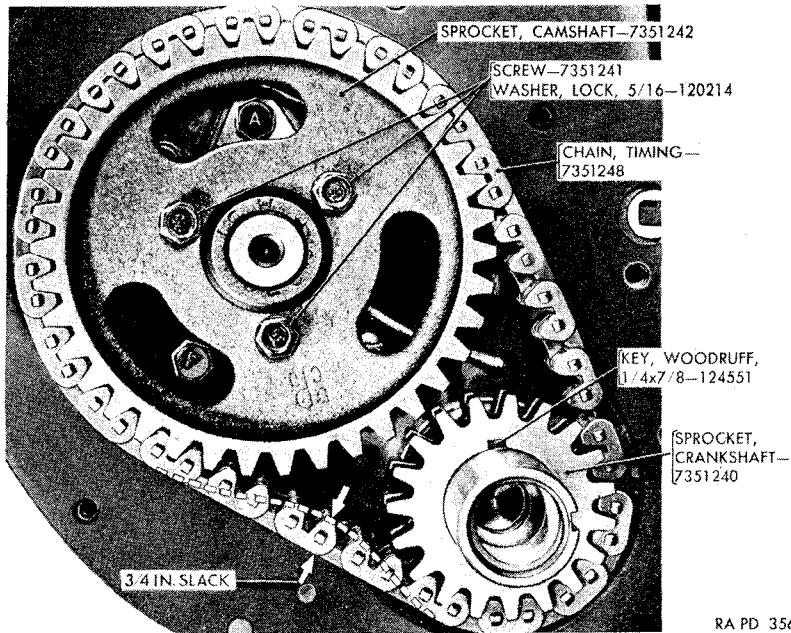

Figure 32. Testing slack in timing chain.
- (2) Remove the engine front support plate.
- (3) Remove the timing chain case cover.
- (4) Turn the crankshaft clockwise so that the top span of the chain is tight. If the amount of slack in the lower span is greater than three-quarters of an inch, replace the timing chain (fig. 32).
- (5) Remove the camshaft sprocket and timing chain.
- (6) Remove camshaft sprocket oil nozzle, clip, and nozzle clip screw and washer.
- (7) Remove timing chain case cover plate and gasket.
- (8) Remove oil pan front seal plate and front oil seals.